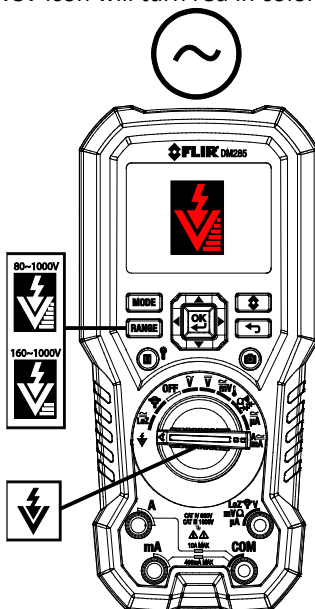

Fig. 9-2 Non-Contact Voltage Detector
1. Set the function switch to the NCV  position. See **Fig. 9-2**.
3. Use the **RANGE** button to choose High (80~1000V) or Low (160~1000V) Sensitivity range (see the sensitivity icons in **Fig. 9-2**).